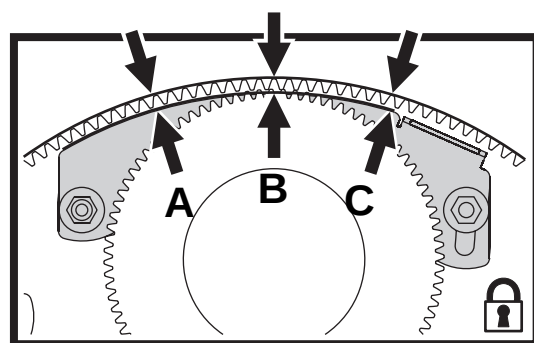

Figure 29: Correct goboholder position
2. See Figure 29. When the goboholder is correctly installed, the outer edge of the retainer plate is perfectly concentric with the outer edge of the gobo wheel, so that distances A, B and C are exactly the same. **Important! Check this carefully, or the goboholder may fall out of the gobo wheel during operation.**